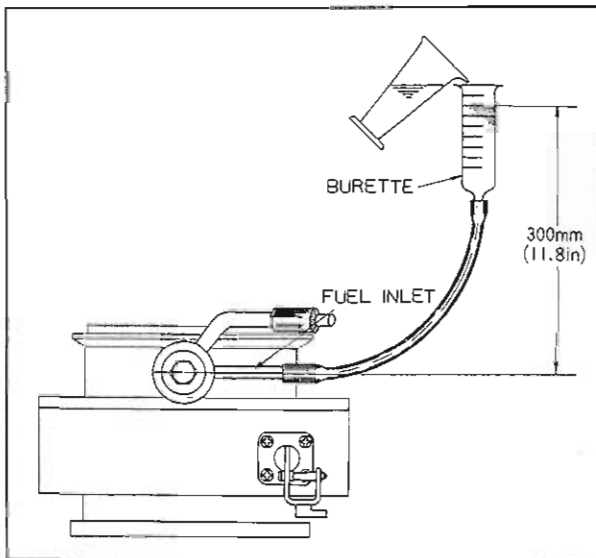

Fig. 4-16 Checking fuel discharge
4. Set the fuel level in the burette at 300 mm (11.8 in) above the fuel inlet, as shown in Fig. 4-16.